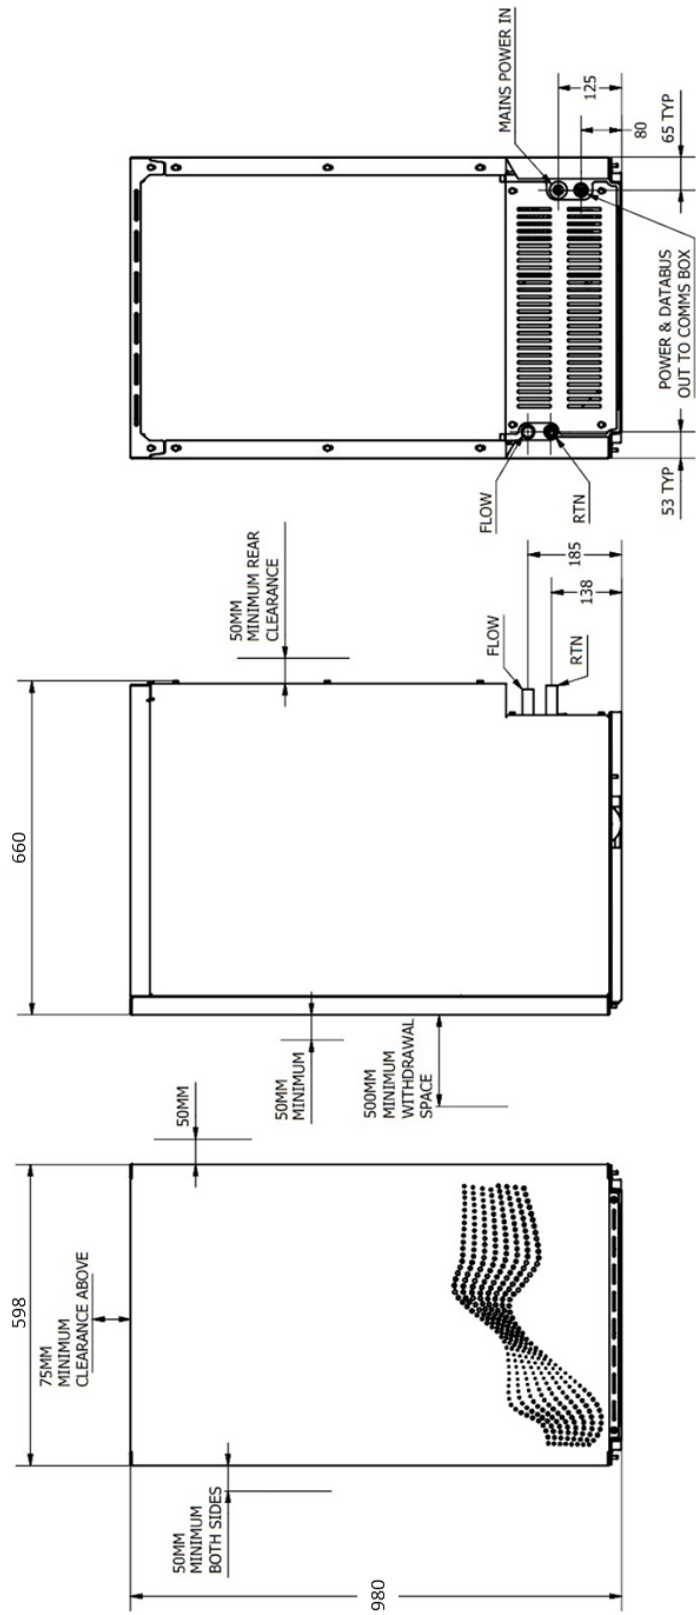

Figure 5: Standard clearance distances required around the ZEB®
- Standard clearances around the ZEB[®] are given in **Figure 5**